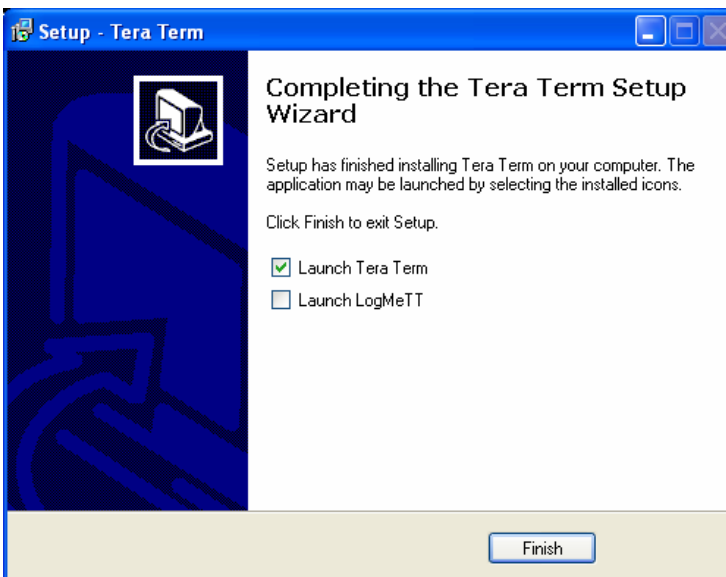

Figure 6-14: Completing the Tera Term Setup Screen
16. At the Completing the Tera Term Setup screen, click **Launch Tera Term**, then click **Finish** (Figure 6-14).